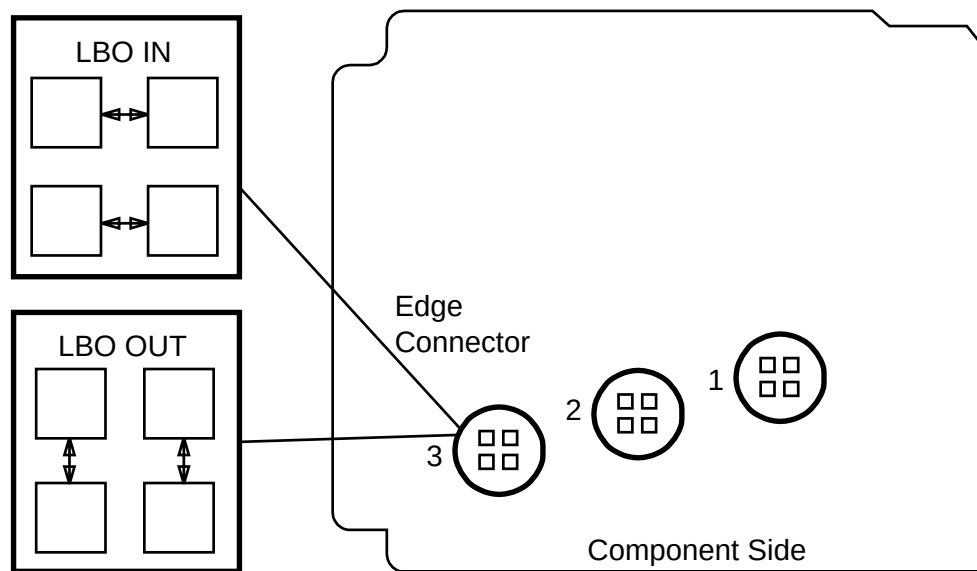

Figure 1. 3STS1E Option Settings
3. Refer to Table A and Figure 1. Install the STS1E option jumpers per Table A.